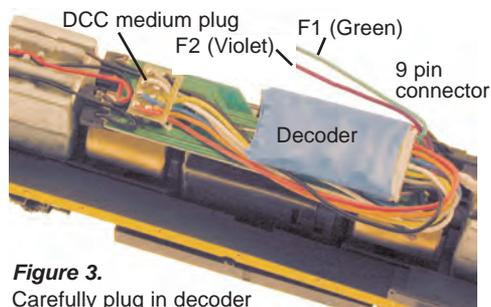

Figure 3. Carefully plug in decoder
3. Insert the DCC plug end of the harness into the socket. The pin with the orange wire plugs into the hole marked 1. *Figure 3* Seat the decoder firmly in the socket.